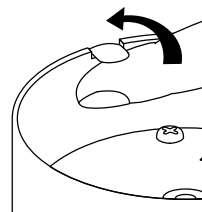

Figure 3
1. Hold the upper part of the chart holder on the cylinder, and then gently lift the chart holder in the direction of the arrow to remove it (Figure 3).